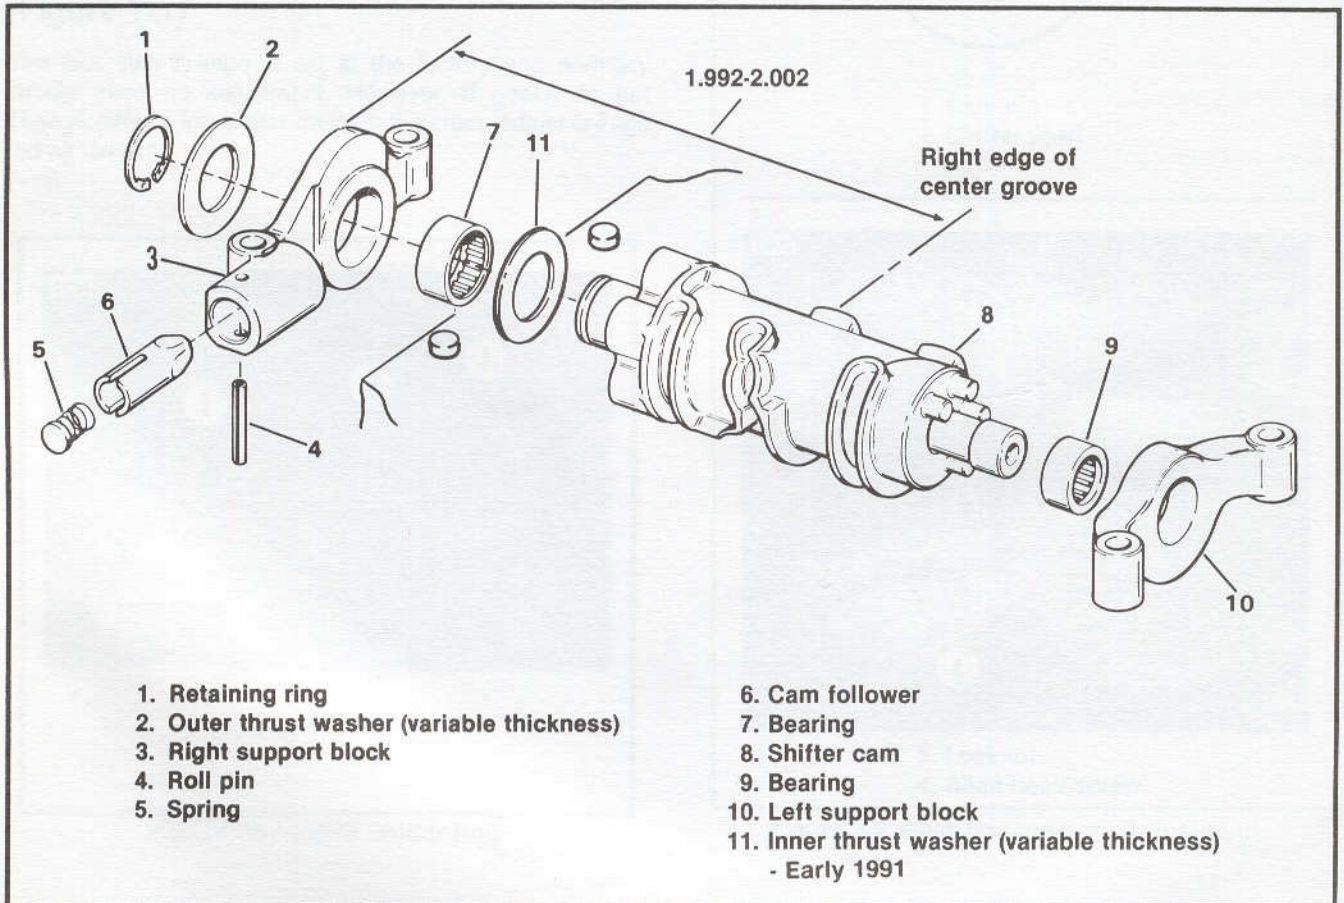

Figure 7-3. Shifter Cam Assembly
4. See Figure 7-3. The left support block (10) is a slip fit on the cam and will slide off.
5. Remove retaining ring (1), outer thrust washer (2) and right support block (3). Mark thrust washers (2 and 11) so they can be installed in their original position. Discard retaining ring.
CLEANING, INSPECTION AND REPAIR (Figure 7-3)
1. See Figure 7-3. On early 1991, install inner thrust washer (11) and right support block (3) on large end of shifter cam (8).
This measurement should be 1.992-2.002 in. Proper shift drum position measurement can be obtained by varying thickness of inner thrust washer (11, Figure 7-3).
4. See Figure 7-3. Slip left support block (10) on small end of shifter cam.
DO NOT change **INNER** thrust washer (11, Figure 7-3) to alter shifter cam end play. The inner thrust washer is used only to set shift drum position.
5. See Figure 7-3. Use a feeler gauge and check end play of shifter cam (8). If end play is not 0.001-0.004 in., remove **OUTER** thrust washer (2) and replace it with a thinner or thicker one. With proper end play, thrust washer (2) should turn freely.